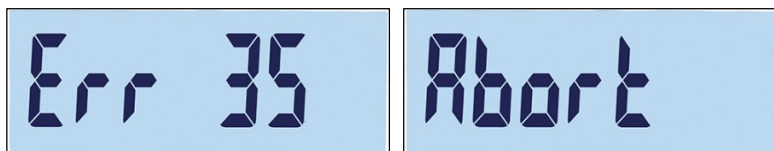

Figure 3-17: Linearity Calibration Error and Abort Messages
- If the scale is not stable after 30 seconds, it will time out and display an error code "Error 35" (Figure 3-17, left). This message will display for 2 seconds, and then the terminal will return to the last operation. Either reload the weight, or press **F1** to cancel the process. If calibration is cancelled, "Abort" (Figure 3-17, right) will display briefly, calibration will end, and the F1.3.3 screen will reappear.
- To abort the process without saving the previous parameters, press the power button during the calibration. "Abort" (Figure 3-17, right) will appear briefly. Calibration is suspended, the former parameters aren't saved, and the display returns to the F1.3.3 screen.